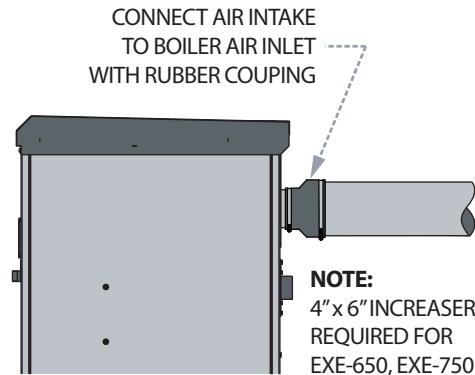

FIGURE 12 - CONNECTING TO BOILER AIR INLET
- 2. An adapter (not supplied with boiler) may be required to connect the boiler air inlet to the combustion air ducting/piping. See **Figure 12**.